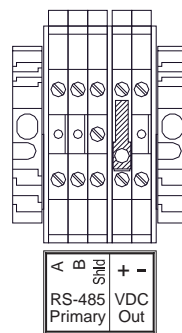

Figure 11 Typical RS-485 connections
2. For Serial Units (880S), connect the RS-485 Modbus™ network to the terminal blocks labeled “Primary RS-485,” “A,” “B,” and “Shld” (Figure 11). Ensure that the network is properly laid out. Proper layout of the RS-485 network is important for correct operation. Refer to Appendix A (RS-485 Integration and Wiring) for proper network layouts.